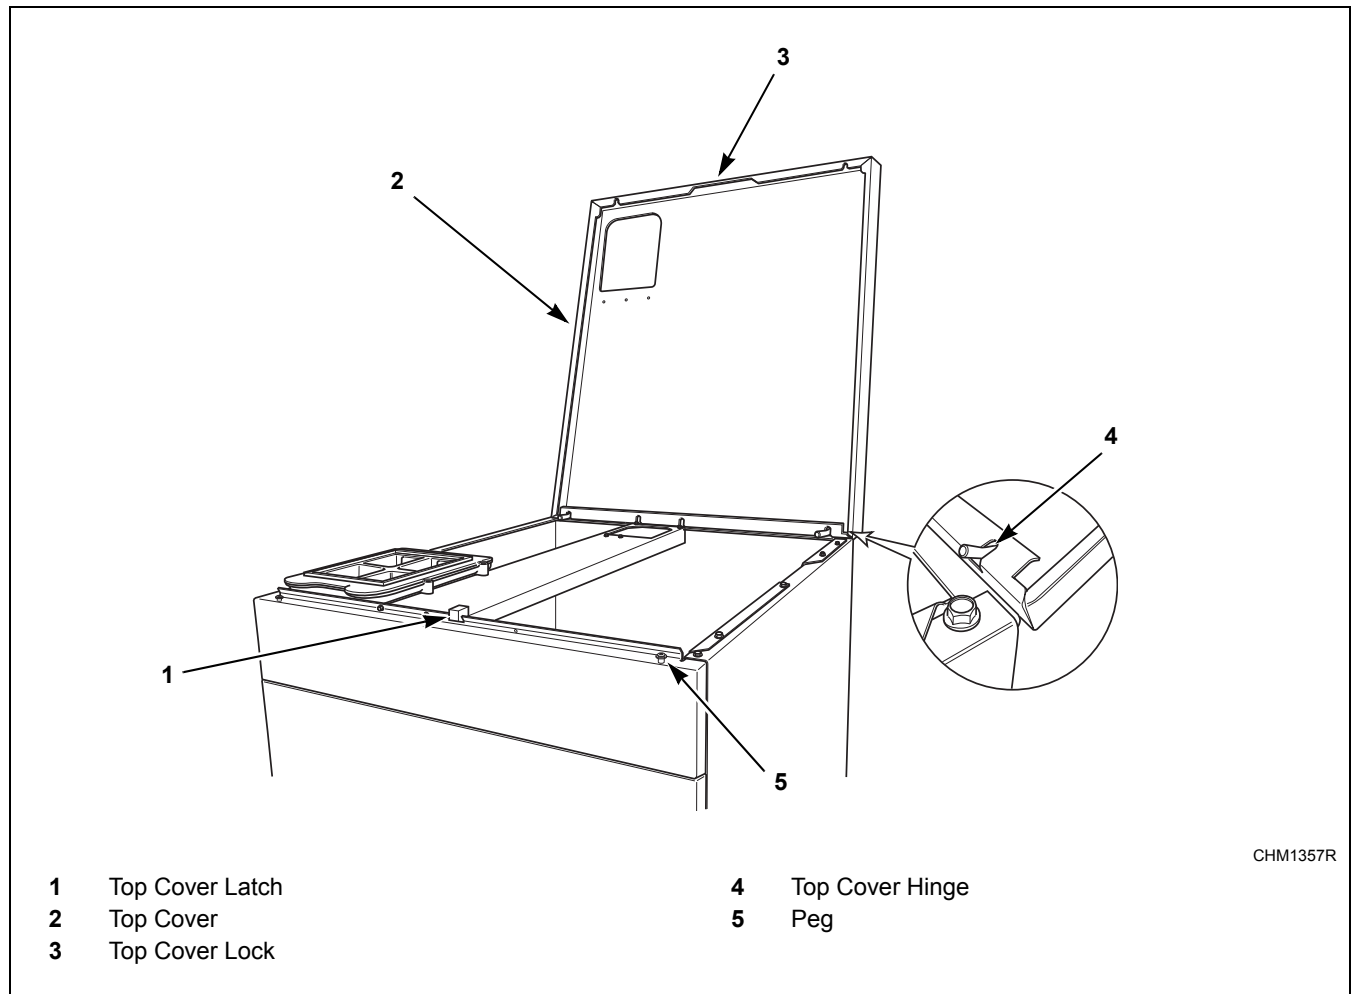

Figure 2
3. Lift the top cover up. To completely remove, lift top cover away from both top cover hinges. Refer to *Figure 2*.